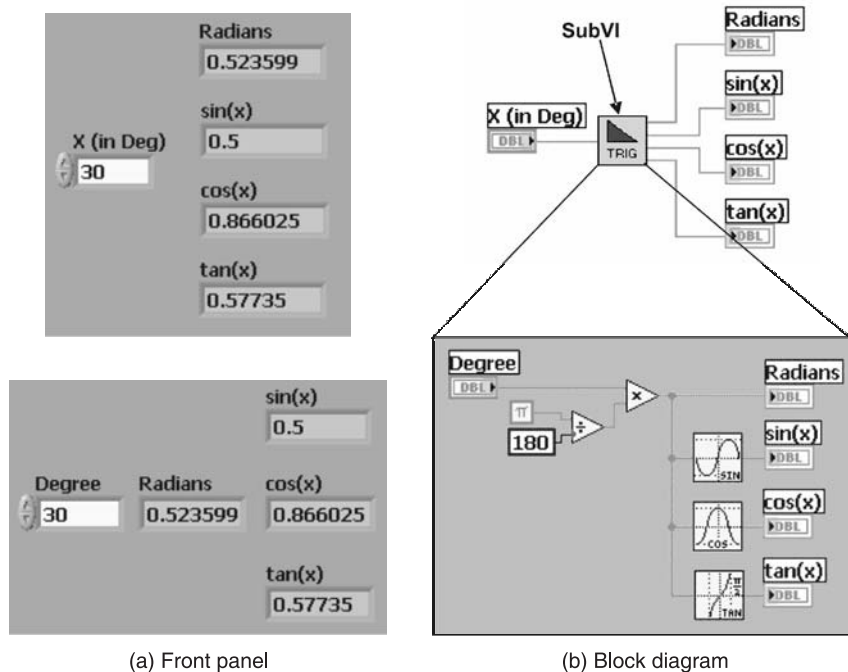

Figure P3.6
**Solution** Create the front panel and the block diagram as shown in Figures P3.6(a) and P3.6(b).